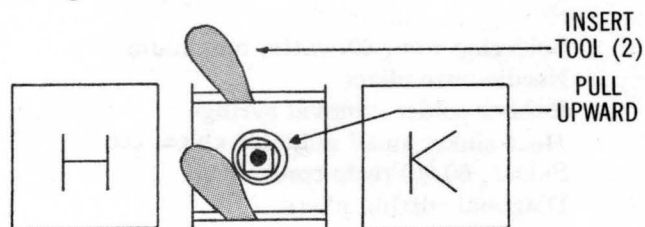

Figure 3-17 Removing Keyswitch Module
2. Turn the circuit board over and locate the proper pins (4). Unsolder the pins and clean excess solder from around the holes.
3. Insert the extracting tool (supplied with module) to release the retaining springs. Remove the housing by pulling upwards on the plunger (See Figure 3-17).